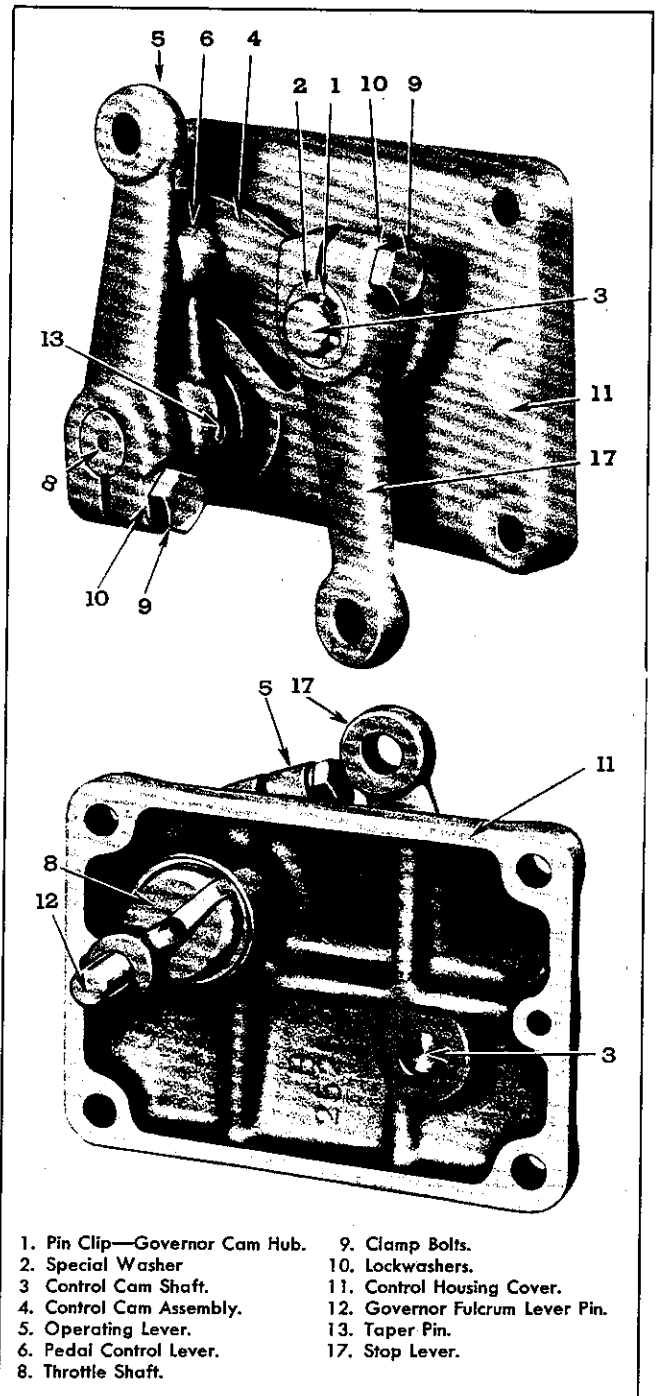

Fig. 4—Top and Bottom Views of Governor Control Housing Cover Assembly.
1. Remove pin clip (1) and special washer (2) from control camshaft (3). Loosen clamp bolts (9) on both operating and stop lever, (5) and (17), and remove the two levers. (See Fig. 4.)